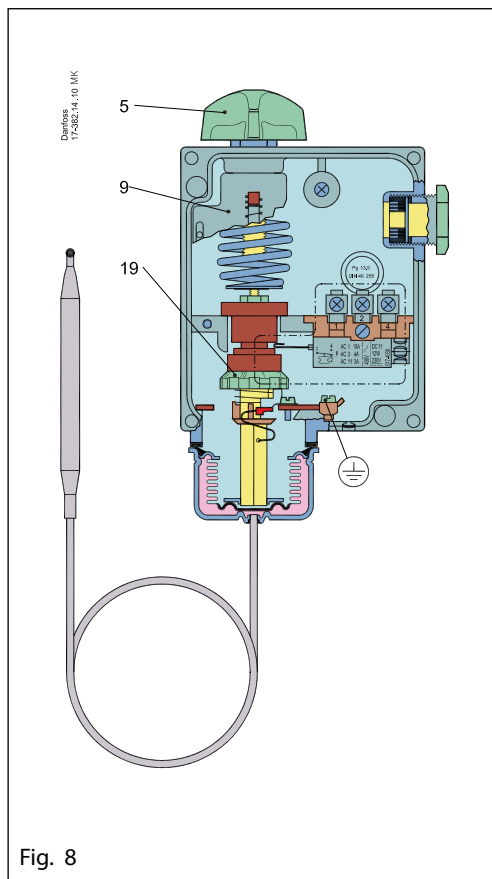

Fig. 8
2. Set the thermostat on 70°C using the hand knob (5), fig. 8.
3. Set the differential disc (19) on 3. This figure is obtained from the RT 101 nomogram, page 5.